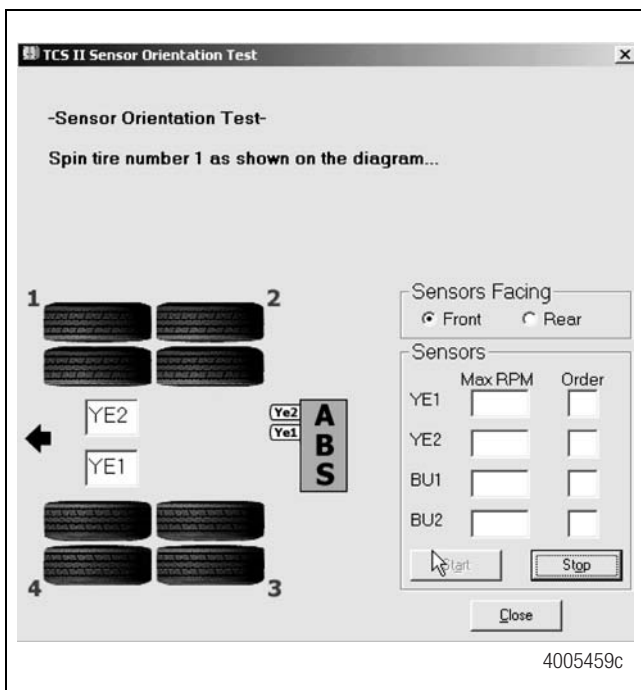

Figure 31
6. Click on **Start** to begin the test. Figure 31.